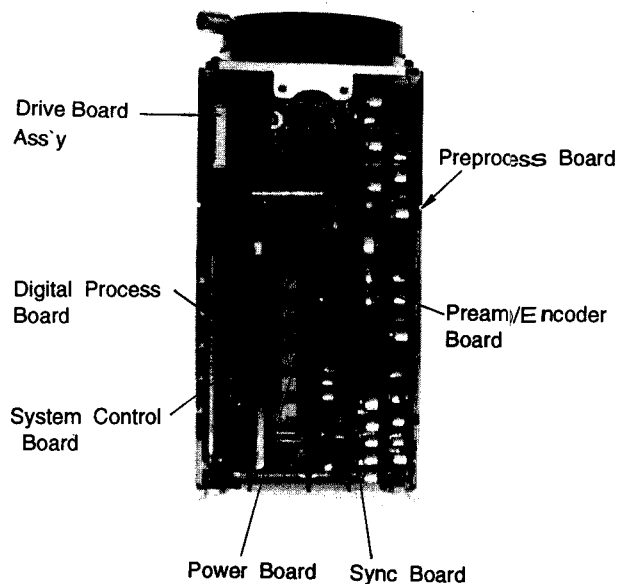

Fig. 2-1-4
- Referring to Fig. 2-1-4, pull each Board Assy out from their connectors on the Mother Board Ass'y.